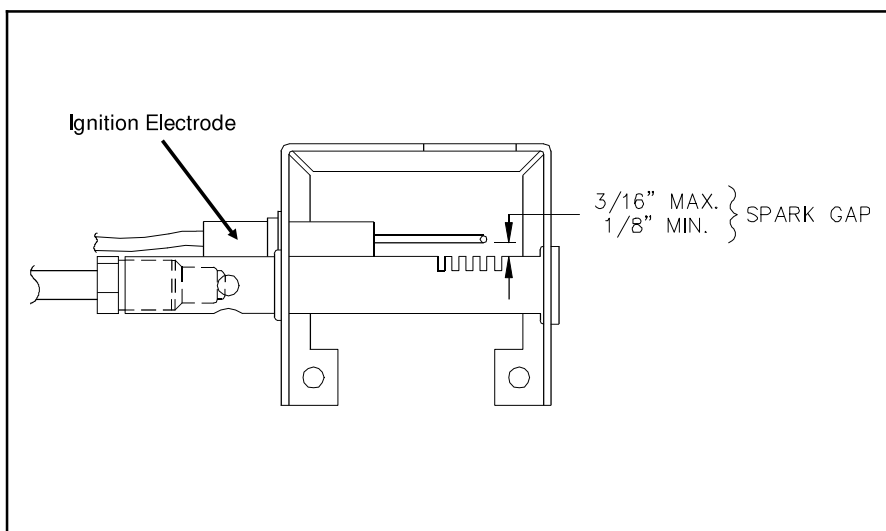

Figure 11.48 Proper Electrode Gap
25. Check that the alignment of the electrodes is correct as shown in Figure 11.48